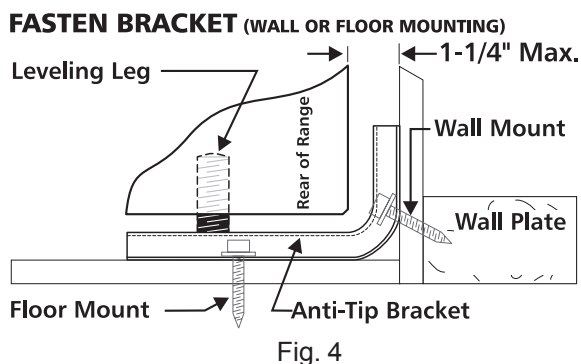

Fig. 4
- a. **Locate the bracket using the template** - (Bracket may be positioned on either the left or right side of the range. Refer to Figs. 4, 5, & 7 to position the bracket if template is not available).
For wall mount (Fig. 4), locate the bracket by placing the back edge of the template against rear wall and the side edge of template on the mark made referencing the side of the range. Place bracket on top of template and mark location of the screw holes in wall.